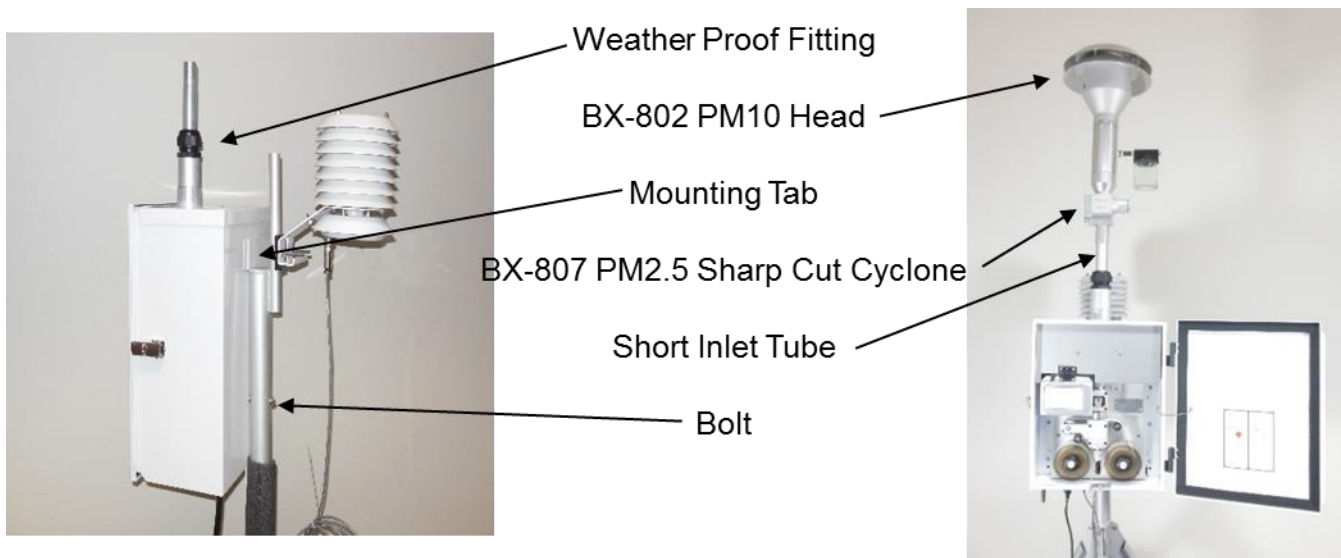

Figure 2-2 Tripod Mounting of the E-BAM
2. **Install the E-BAM onto the tripod:** Lift the E-BAM assembly and slide the slot on the back of the E-BAM over the tab on the top of the tripod. Insert the supplied $\frac{1}{4}$ - 20 bolt through the tab on the bottom of the E-BAM and through the hole in the body of the tripod (see Figure 2-2). Secure it with the supplied washers and nut. This prevents the E-BAM from shifting on the tripod.
3. **Install the inlet components:** Loosen the weatherproof fitting on top of the E-BAM and insert the short inlet tube into the top of the unit. The tube must go through the fitting and through two O-rings in the top of the E-BAM. *Make sure the tube is fully seated* by rotating it back and forth. Tighten the weatherproof fitting to secure the inlet tube. For PM₁₀ monitoring, install the BX-802 PM₁₀ inlet directly onto the top of the short inlet tube. *If a BX- 807 cyclone is to be used for PM_{2.5} monitoring, it must be installed under the PM₁₀ head as shown in Figure 2-2.* Lubricate the O-rings as necessary.